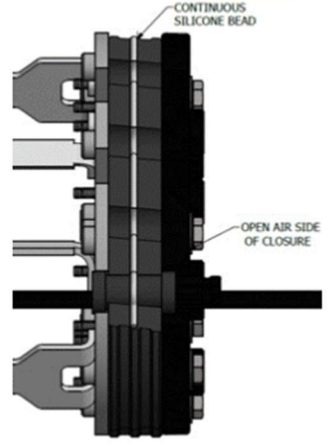

Fig. 3
13. Apply a small continuous bead of silicone to the inside surface of the elastomer. Make sure there is contact with the bead around the grommet. (Fig 3)